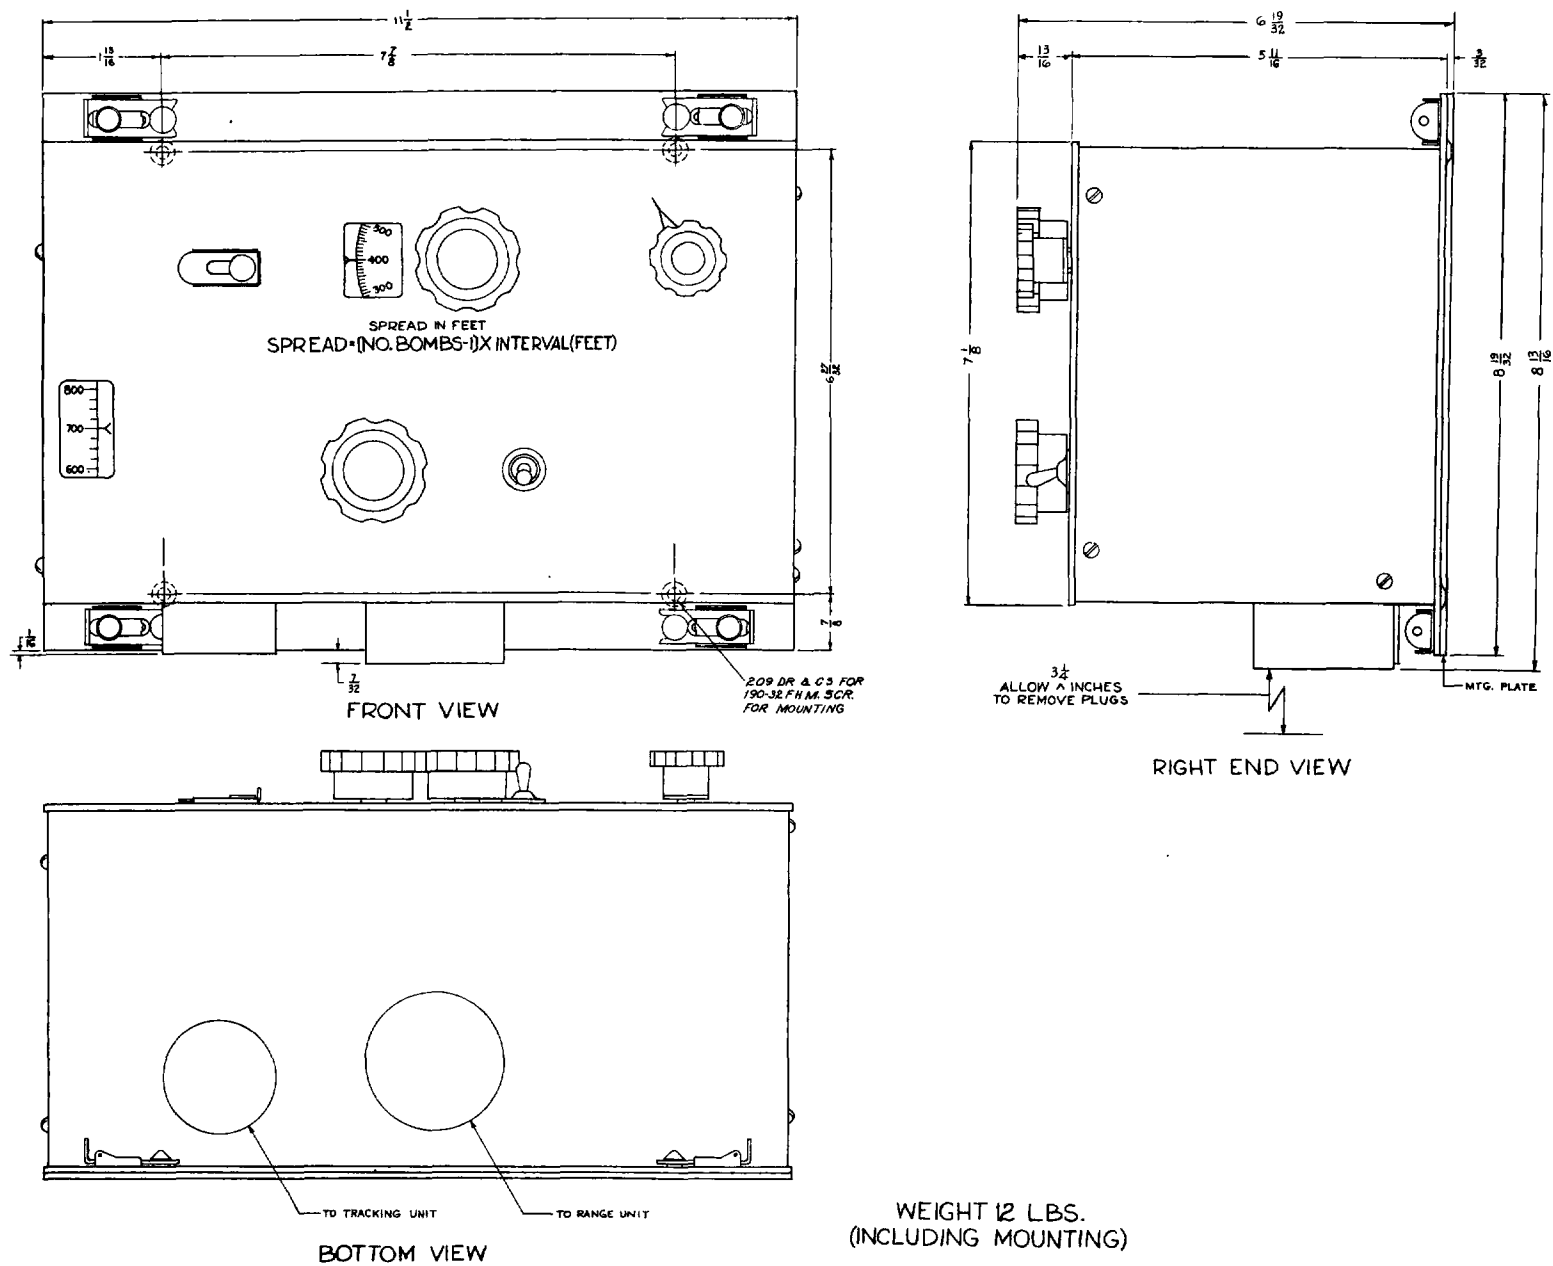

Figure 2-2. Control Box C-6/APQ-5—Outline Dimensions
(2) *CONTROL BOX C-6/APQ-5 AND MOUNTING MT-19/APQ-5.*—Locate the control box within arms' reach of the operator, but as its controls do not require continuous adjustment, any location which permits access to the controls and a view of the dials and warning pilot light may be used. The control box is provided with snap slides; its mounting has countersunk holes for No. 10 flathead machine screws for attachment to the airplane. (See fig. 2-2.)